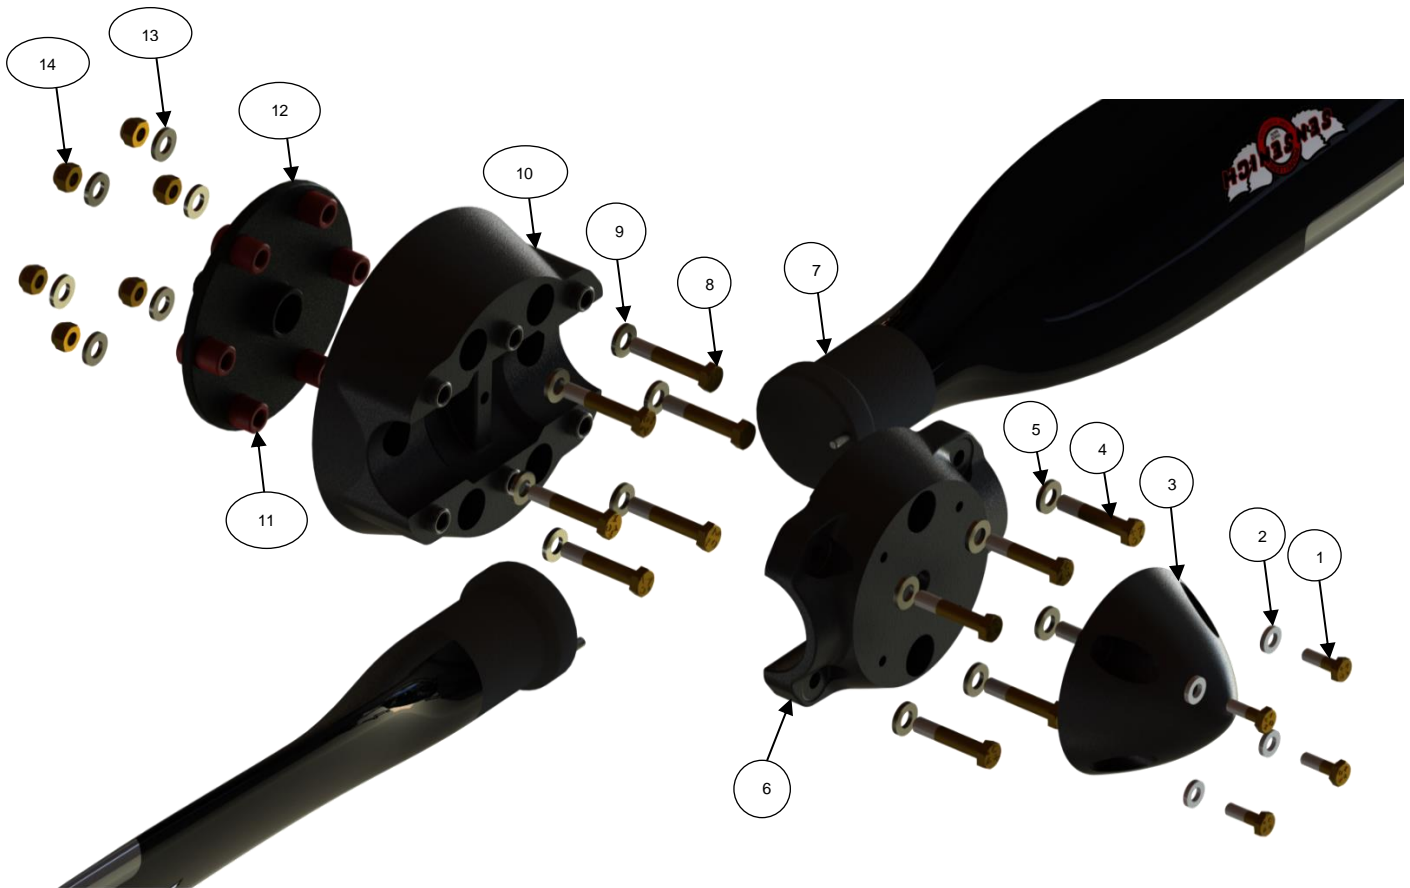

FIGURE 1. 2ASV5 PROPELLER ASSEMBLY
1. Be certain that the aircraft magneto switch is "OFF" and that all magnetos are grounded any time the propeller is handled. Clean dirt and oil residue from the engine flange. Refer to **Figures 1 and 2** for views of the two piece hub, blades and engine flange.